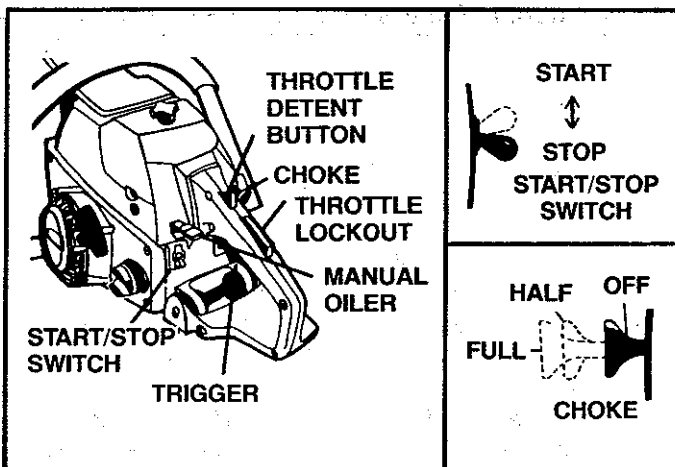

Figure 16
Understanding the control devices on your saw is an important part of learning how to properly and safely operate the unit. Figure 16.
- Stop engine by moving the ignition switch to the "STOP" position (Figure 16).